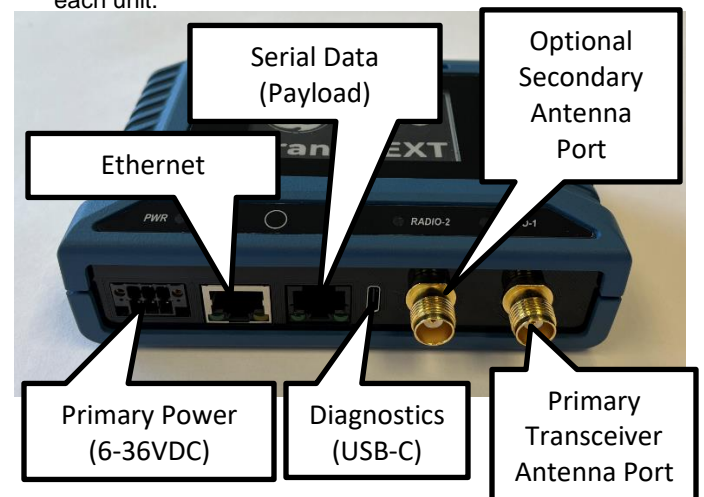

Figure 7: Interface Connector Functions
4. Connect the data equipment to the transceiver's DATA connector. Use only the required pins for the application. Refer to Figure 7.
Note: for NET9S applications with a single transceiver, terminate the unused secondary TNC antenna port (See Figure 7) of the radio, and the unused antenna port of the dual polarized antenna, with suitable 50-ohm terminations.